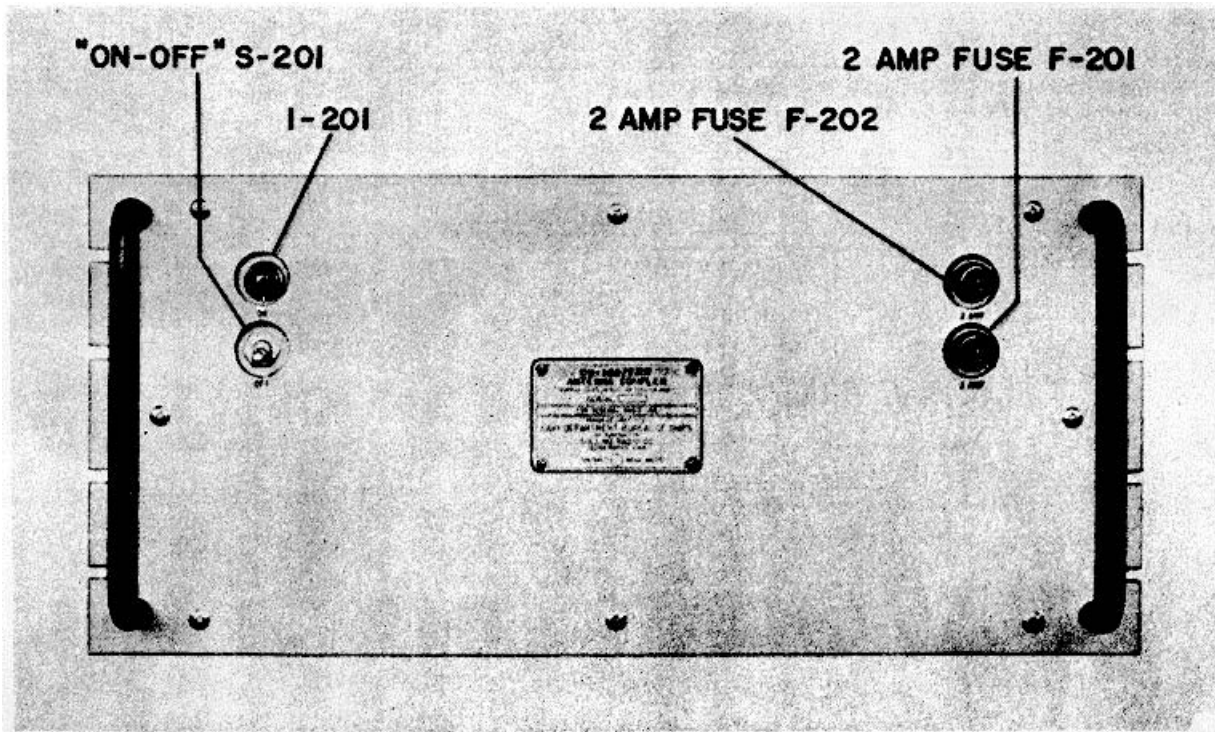

Figure 4-1. Antenna Coupler CU-168/FRR, Panel, Front View
2. OPERATION. (See figure 4-1.)
and check all tubes on a standard tube tester such as Tube Tester TV-3/U series, Navy Model OZ series or equivalent. For tube locations, see figures 1-2 and 7-5. For fuse locations, see figure 4-1.